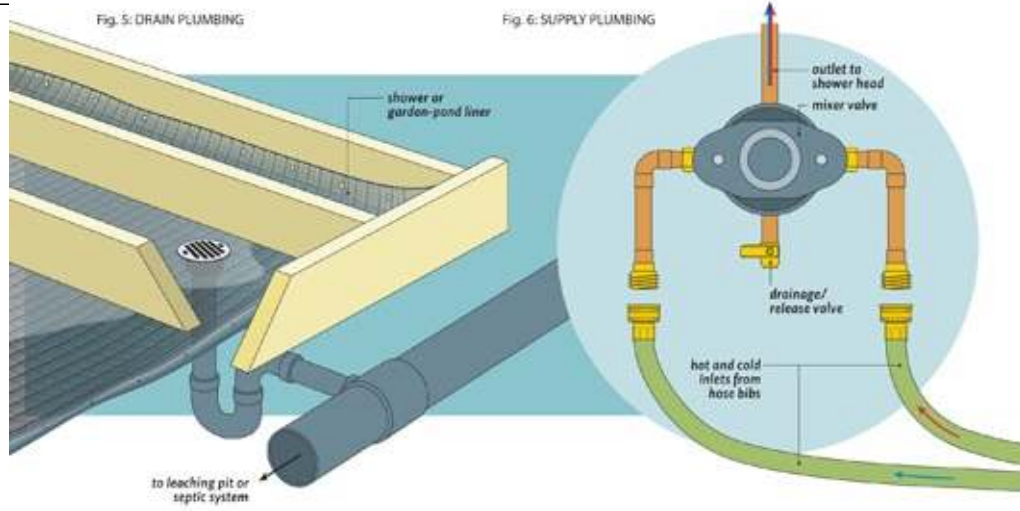

Fig. 4: DRESSING-AREA SHELF
2. I added five small shelves (see figure 4) in the dressing area, screwing supports (2"-wide strips ripped from 1x6) to the 4x4 posts, and then topping with shelves cut from 1x6 and notched to fit around the posts.